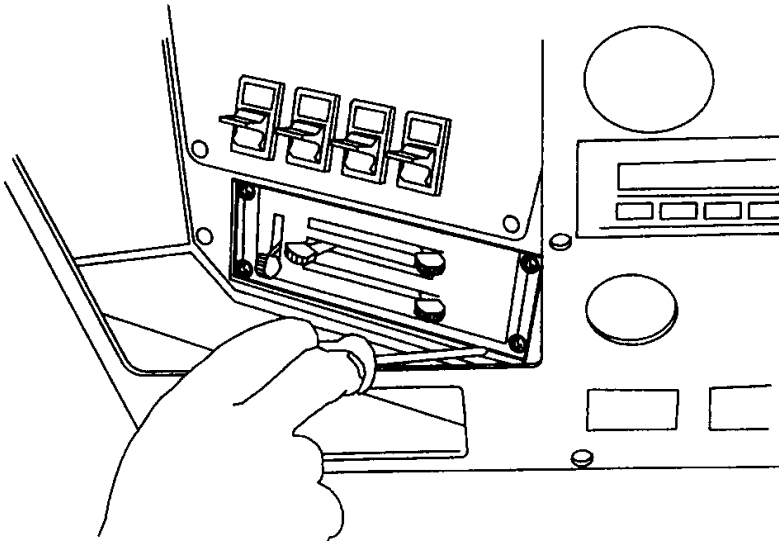

Figure 54 Cab Control Assembly Mounting Screws
1. Remove four screws from cab control assembly (Figure 54).
4. Install four control assembly mounting screws (Figure 54).
5. Remove four screws from cab control assembly (Figure 54).
5. Slide control assembly into dash and secure with four mounting screws (Figure 54).
7. Slide control assembly into dash and secure with four mounting screws (Figure 54).